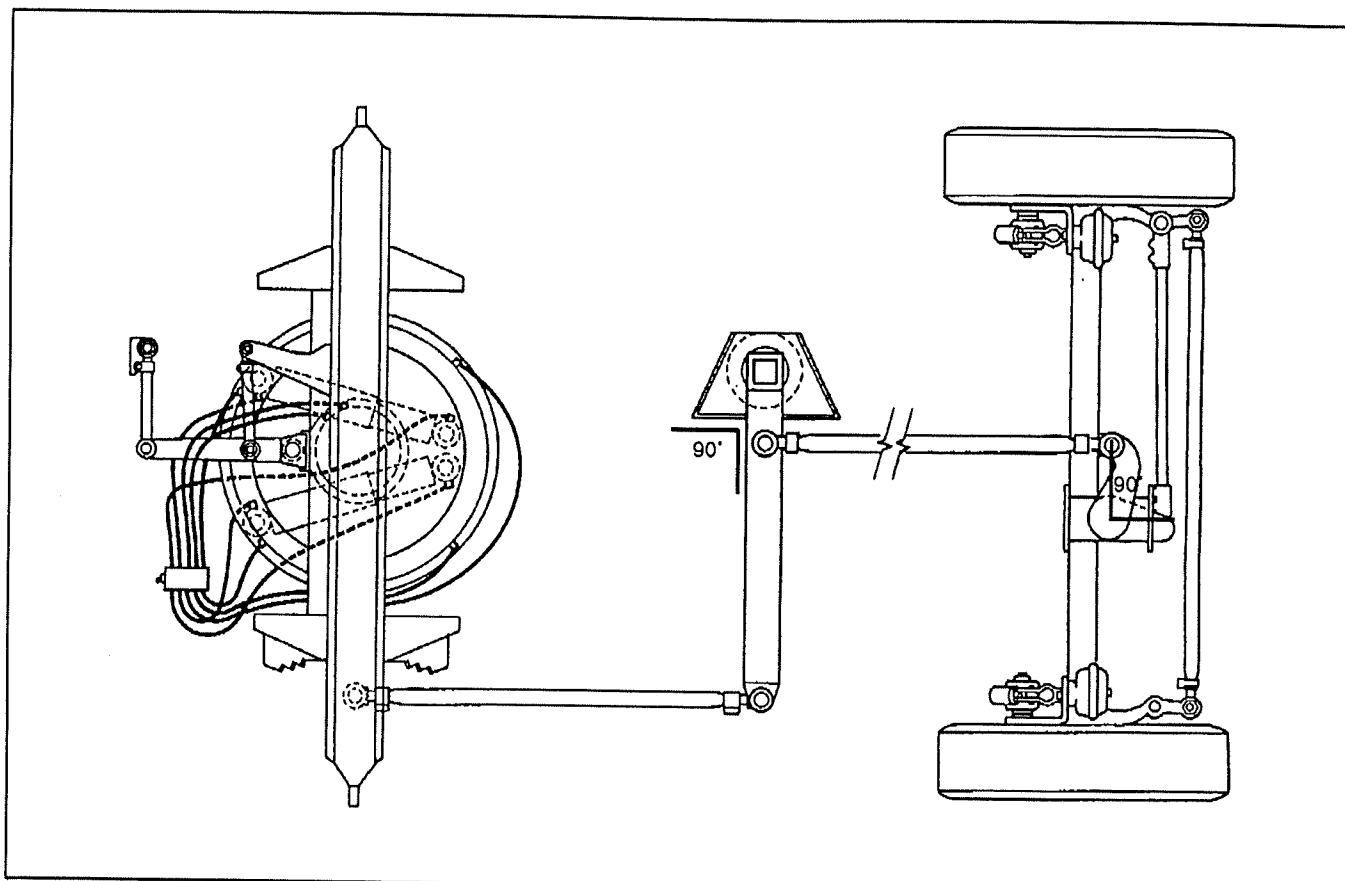

FIG. 6 - Divider pivoting arm and drag link pivot alignment
2. With one extremity of the square positioned on mark and the other on axle beam, measure the angle. The angle should be adjusted to 90° (refer to figure 6 for details).